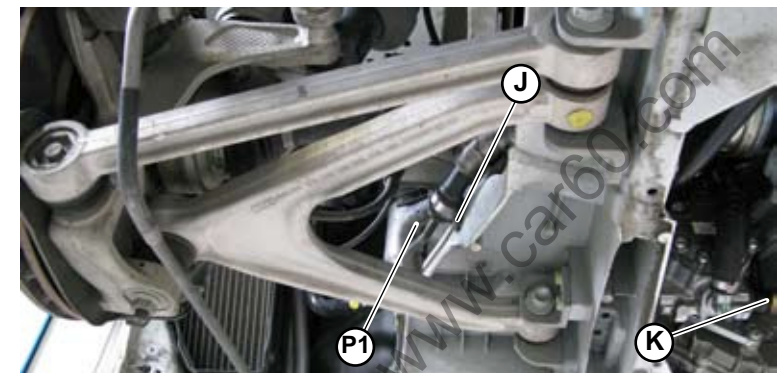

Fig.30
9. Loosen the screw (**J-Fig.30**) fastening the fixing clamp of the **P1** delivery pipe rear part to the chassis. Then disconnect the connection to the power steering circuit pump (**K-Fig.30**).